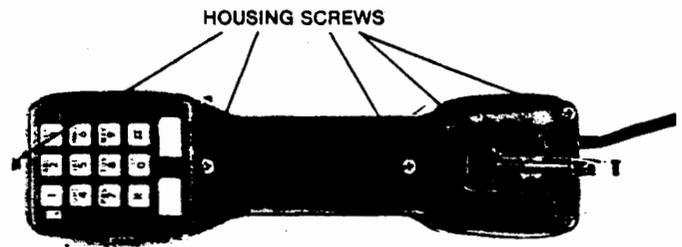

Fig. 9—Location of Housing Screws
- (1) Remove the five screws that hold the front and rear housing together. (See Fig. 9).